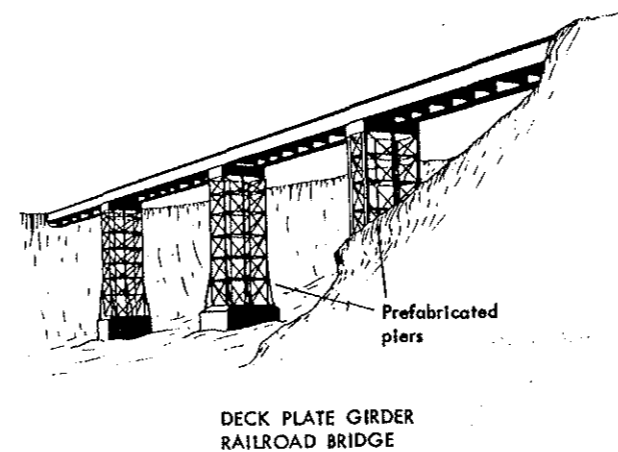

Figure 84.
a. The plate girder (fig. 84)—usually referred to simply as girder—has a solid web and may consist of an I-beam, or it may be built up of plates, angles, and channels.